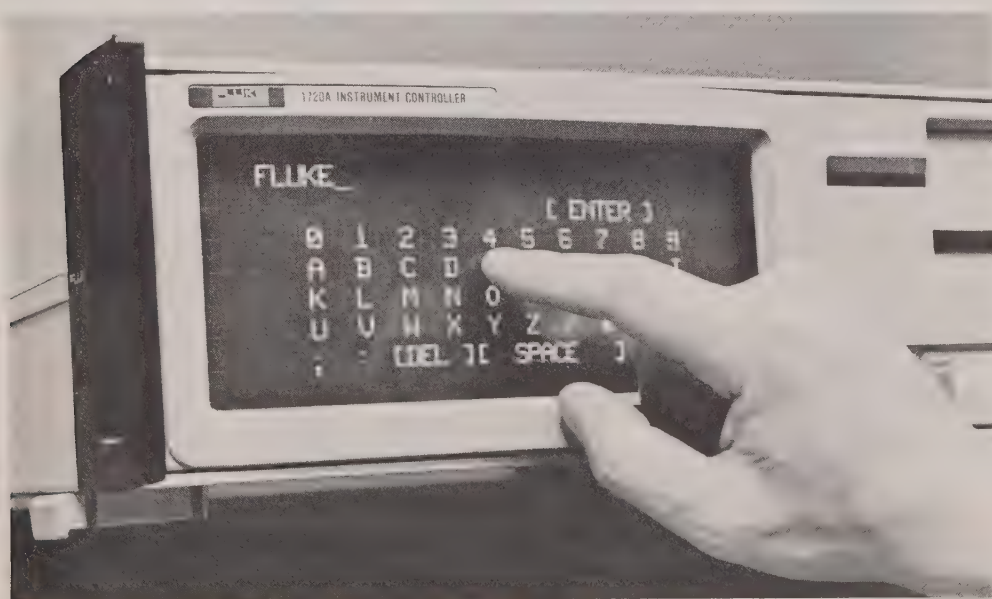
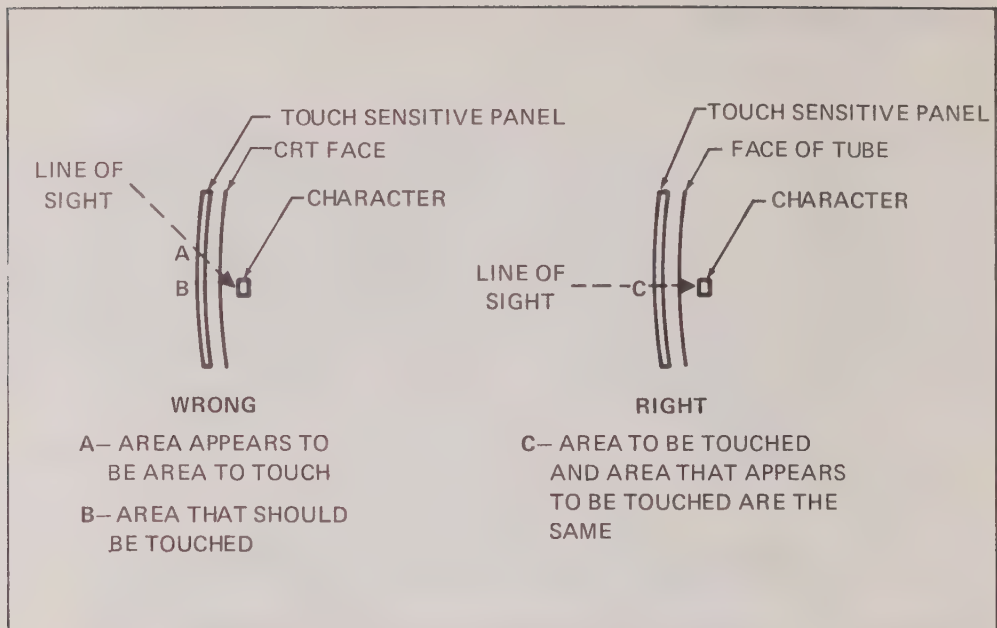

Figure 5. Touch Sensitive Display
Figure 6. Parallax Distortion, Correct and Incorrect Viewing Angles
Touch Sensitive Display: touch sensitive display panel can be programmed to operate by simple commands, individual letters, numbers, or areas which must be touched one at a time. The programmer will write system programs to display information on the screen that may require your response. Touch the screen where indicated to respond to system queries. (See Figure 5.) If you view the display at too great an angle, the resulting parallax may cause you to touch the wrong area. Make sure you are facing the screen directly when making choices. Figure 6 illustrates the importance of the viewing angle when operating the touch sensitive display keyboard.
3. Controller runs SELF TEST once the power is turned on. (See Figure 6.) Observe any messages produced by the SELF TEST or any system test developed by your programmer. See the next section about error procedures. See your programmer for any in-house system error codes.